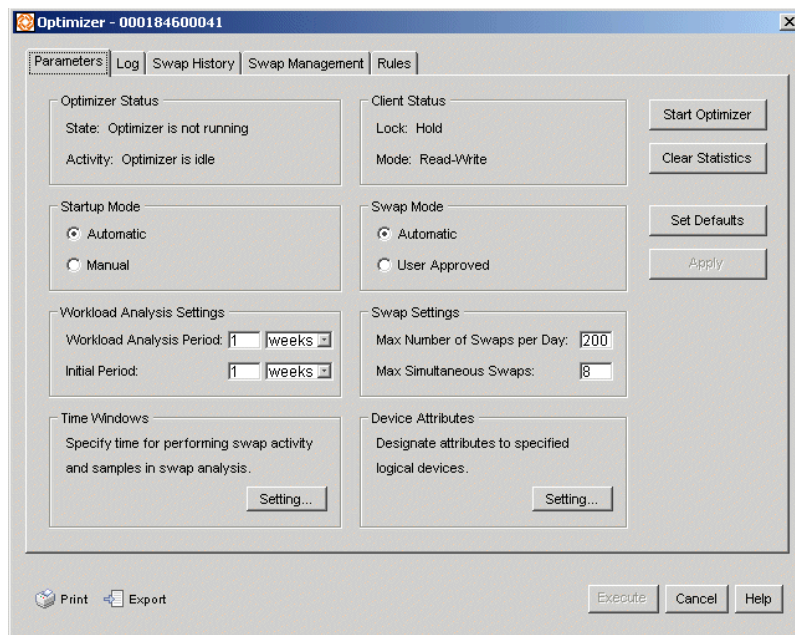

Figure 15-2 Optimizer Dialog Box
2. Select **Optimizer, Setting** from the shortcut menu (or highlight the device and select **Optimizer, Settings** from the toolbar). The Optimizer dialog box appears (Figure 15-2).
The **Parameters** tab (Figure 15-2) allows you to monitor Optimizer status and set Optimizer parameters.